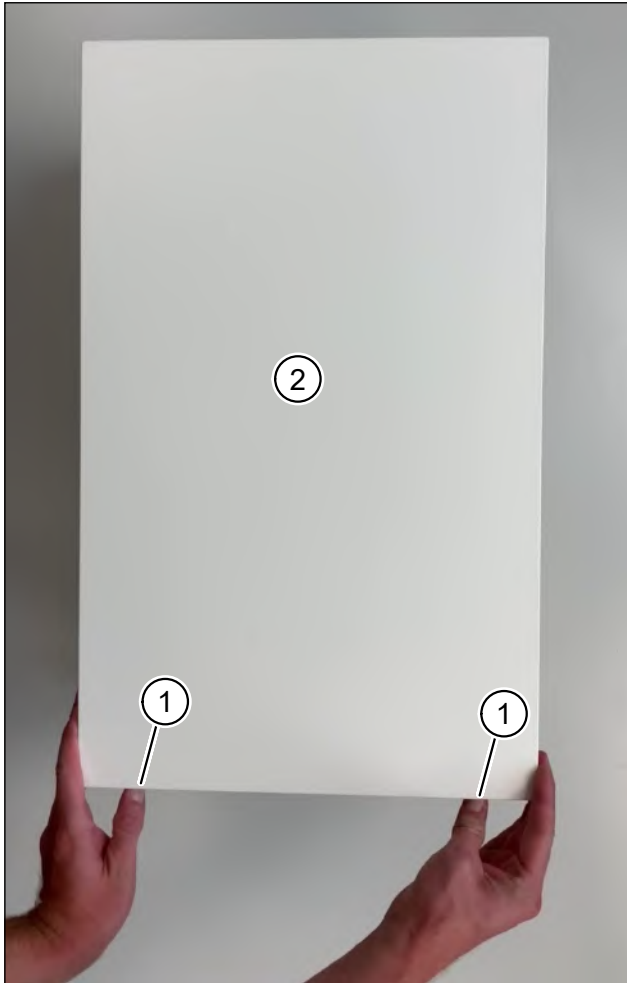

Fig. 1: Remove the unit cover from the ventilation unit
- ▶ Using both thumbs, press the two latches (item 1 in Fig. 1) on the bottom of the ventilation unit. The unit cover (item 2 in Fig. 1) will come away.